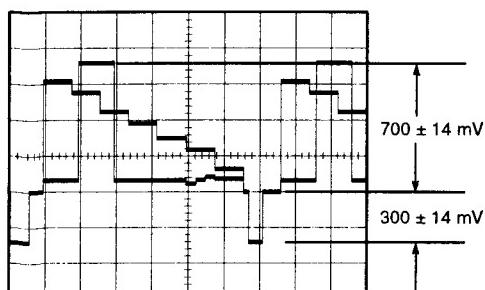

Fig. 5-1-7
- Adjust VR3 so that the Y Level becomes 700 ± 14 mV as shown in Fig. 5-1-7.
- Adjust VR1 so that the Sync Level becomes 300 ± 14 mV as shown in Fig. 5-1-7.